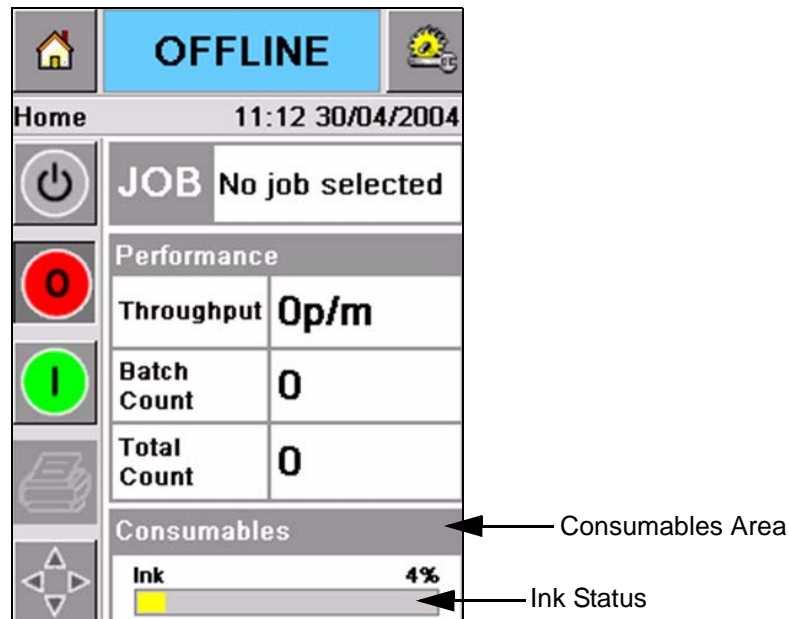

Figure 4-6: Consumables Area
The Consumables area of the *Home Page* screen displays a percentage value of ink that is left in the ink canister of the printer. For example refer to Figure 4-6 on page 4-6.
The ink must be added when the ink low level warning appears on the CLARITY® screen. The ink status bar must show less than 5% (Figure 4-6). The ink status shown on the status bar makes sure that the present ink canister is replaced after the present canister becomes empty.
- 1 Touch the *Consumables* area on the *Home Page* (Figure 4-6 on page 4-6). The *Consumables* page appears (Figure 4-7).